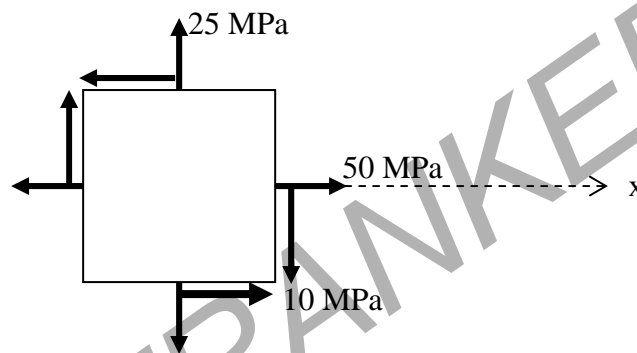

Figure 1
1. For the state of stress shown in figure 1, using the Mohr's circle, determine